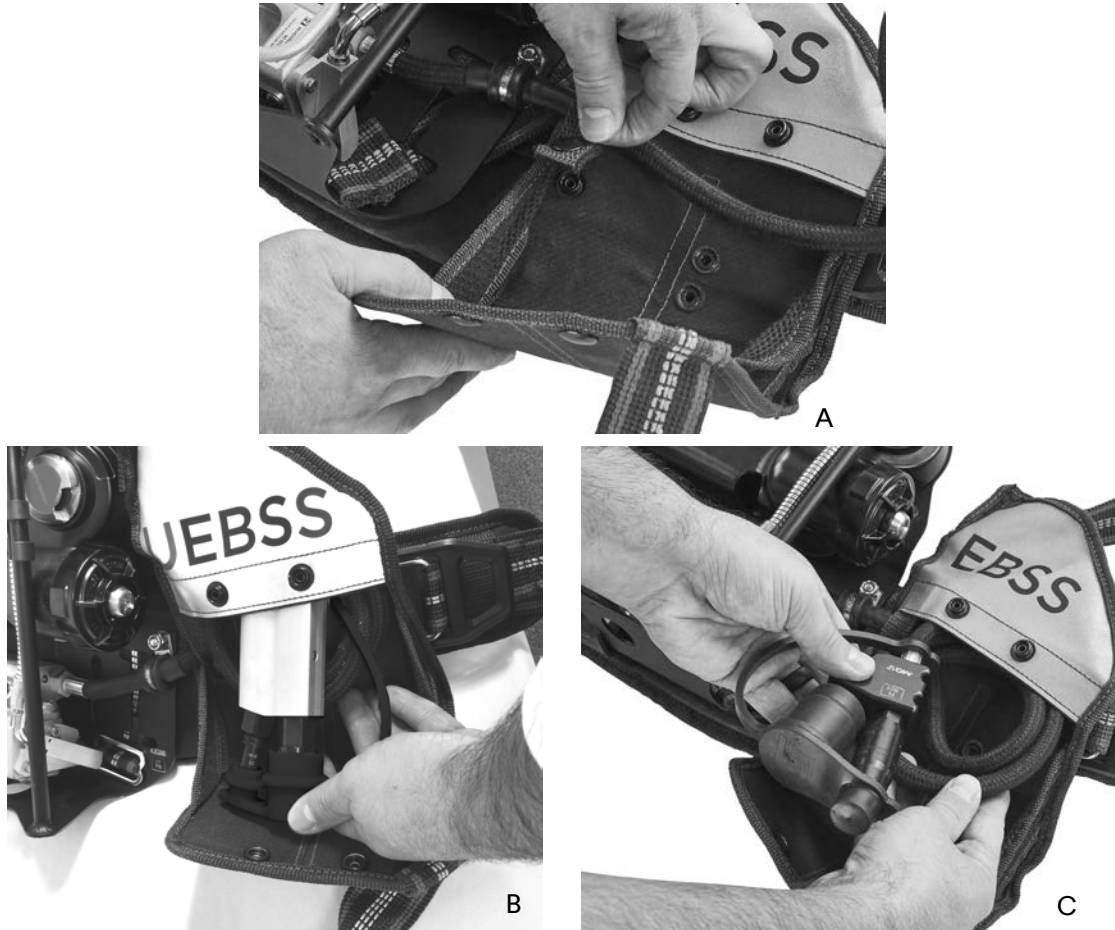

Figure 2-21 A) Securing the UEBS or dual EBSS hose. Coiling the hose and fitting the hose into the pouch for B) UEBS and C) dual EBSS.
- a Secure the UEBS or dual EBSS hose into place by snapping the retaining strap. Coil the hose and fit it into the pouch. See Figure 2-21.